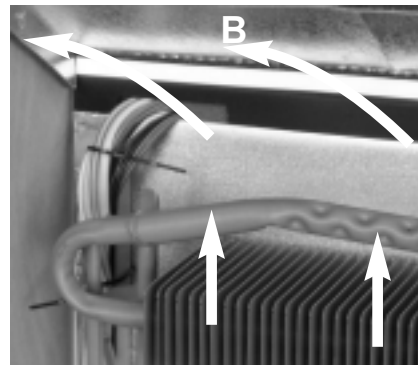

FIG. 4
Insert deflector plate (B), fitted with a lipped seal (A) of heavy-duty, non-flammable material, into the installation recess (see Fig. 4).